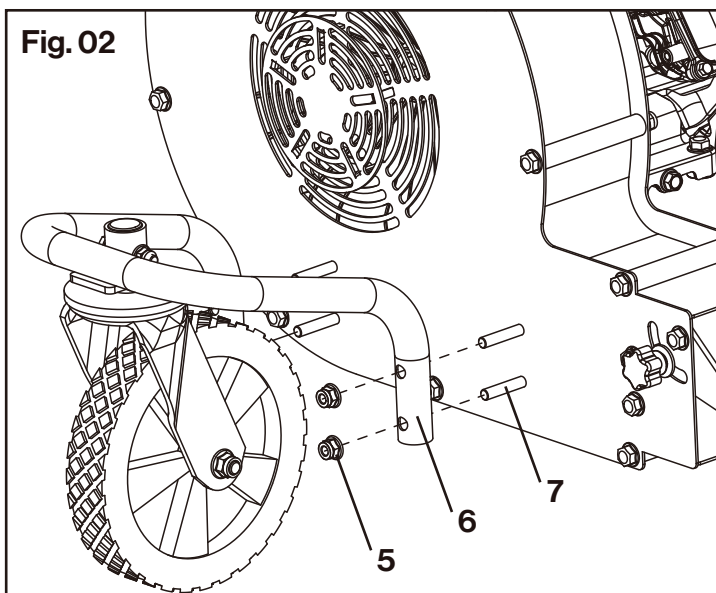

Fig. 02
1. Slide the Swivel Wheel and Bracket (6) onto the front stud (7) of the Main Assembly. Secure it in place by tightening the M8 nut (5). **(Fig.02)**